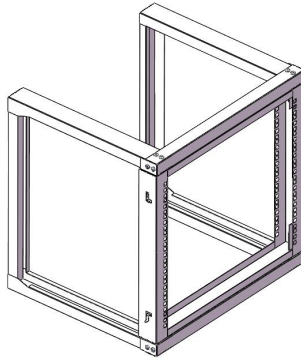

Figure 5
5. Adopts same step as step 4.lock the left side of door set's 2pcs door latches on the frame one by one.make sure the door set is fixed.See Figure 5